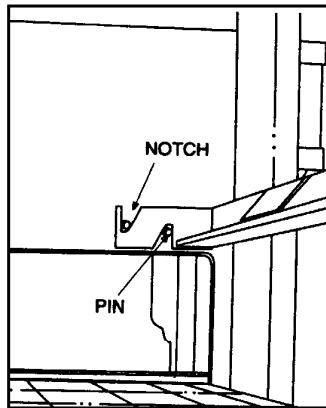

Figure 2
3. Rotate the finger brackets until the notches in the brackets sit on the retaining pins. (See **Figure 2.**)